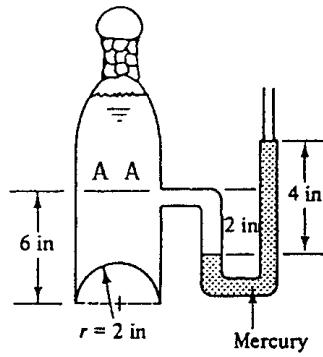

Fig. P2.87
**2.87** The bottle of champagne ( $\text{SG} = 0.96$ ) in Fig. P2.87 is under pressure as shown by the mercury manometer reading. Compute the net force on the 2-in-radius hemispherical end cap at the bottom of the bottle.